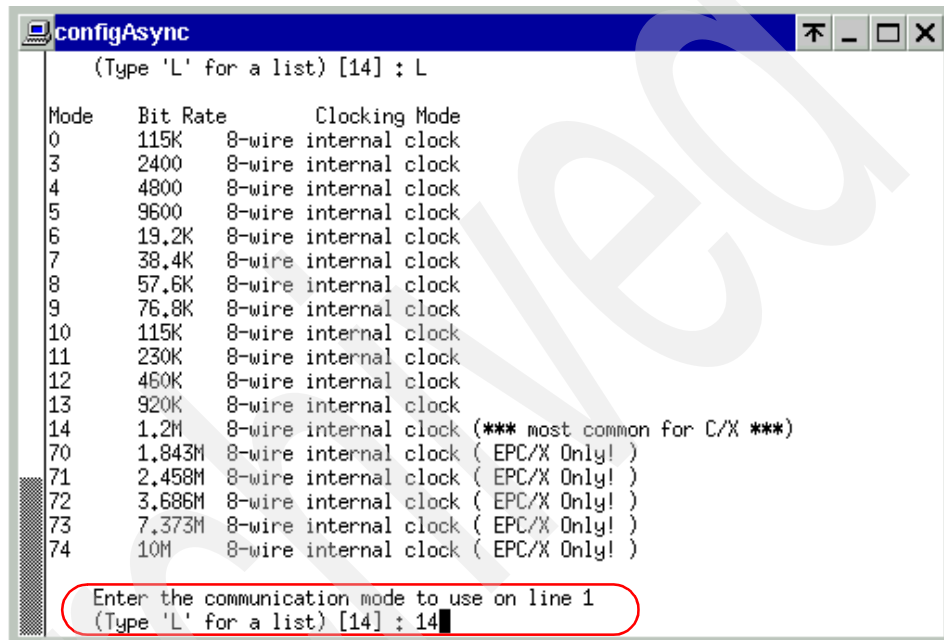

Figure A-7 Specify bit rate
8. The window displays the following message, as highlighted in Figure A-7: